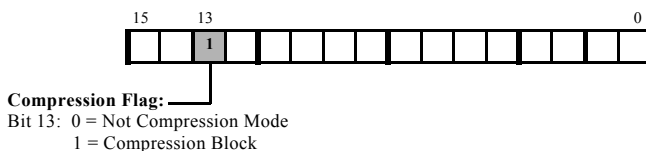

Figure 2-36. Flag Word of Compressed Block Header
The last 16 bits of the compressed header is the flag word. The only valid compression flag assignments are shown in Figure 2-36.
3. (A) The initialization code scans the header for any compressed streams (see the compression flag structure in Figure 2-36). The code decompresses the streams to the decompression window (in parts) and runs the initialization kernel on the decompressed data.